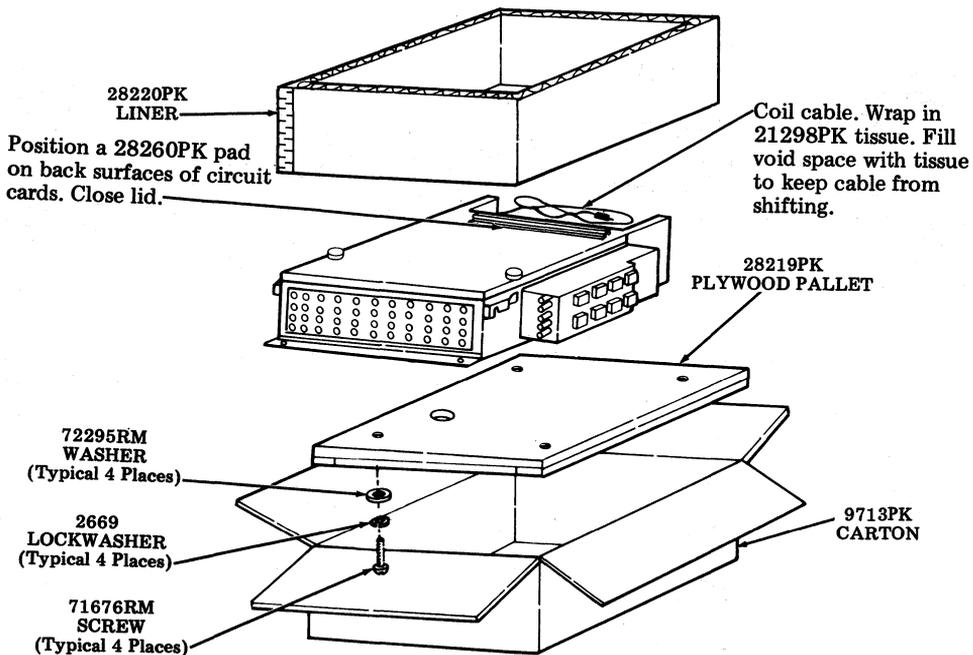

Fig. 62
- Step 1. Mount unit frame to a 28219PK plywood pallet with four 71676RM screws, four 2669 lockwashers and four 72295RM washers as illustrated in Fig. 62. The large hole in the pallet must be in line with the hole used to mount the PSU in the base.
- Step 2. Open cover of unit. Position a 28260PK pad on back surface of circuit cards. Close cover and secure in place. (See Fig. 62.)
- Step 4. Coil unit cable and secure with a 50136PK twist tie. Place palletized unit in carton. (See Fig. 62.)
- Step 5. Form a 28220PK liner and place in carton around unit. (See Fig. 62.)
- Step 6. Position cable at back of unit. Fill void space with 21298PK tissue to keep cable from shifting. (See Fig. 62.)